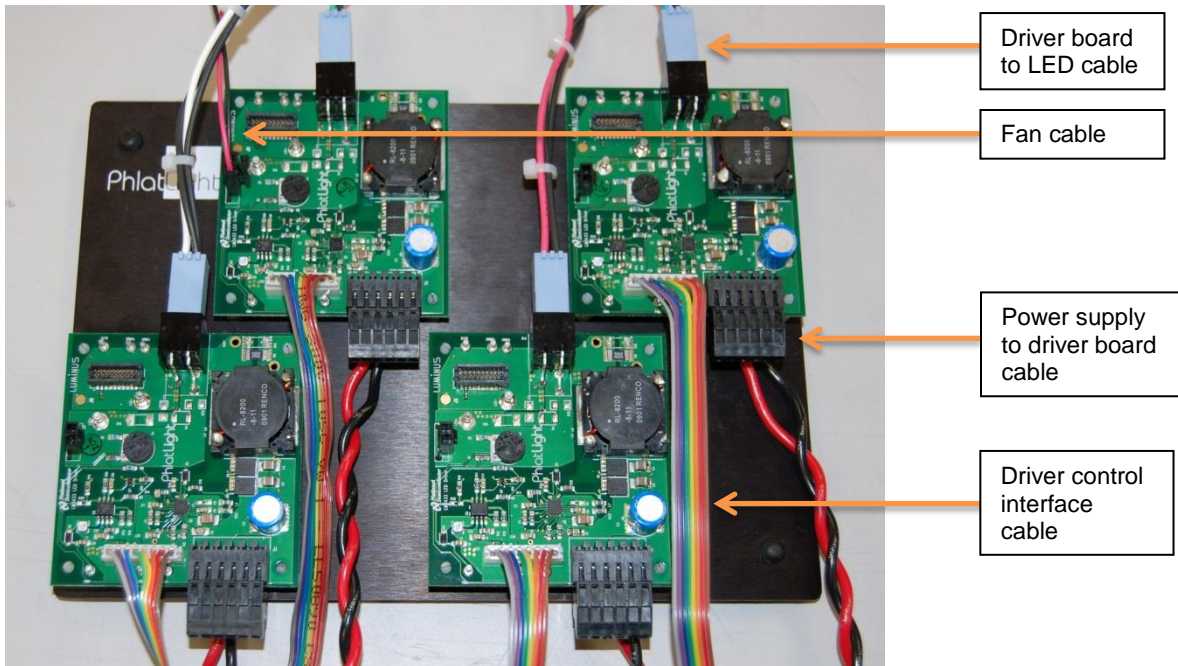

Figure 10: Completed electrical connections on DK-414N-4
- Connect the driver boards to the LED and the power supply using the cables provided in the kit (Figure 10). Consult Appendix F for the LED electrical pin-out to determine which color each driver board would be controlling. The driver board to LED cable connects to the driver boards at P10 and has thermistor connections from the LED, which can be connected to test points THRM1 and THRM2 on any driver board, if necessary. The short 2-pin fan cable must be connected to one of the driver boards at J10.